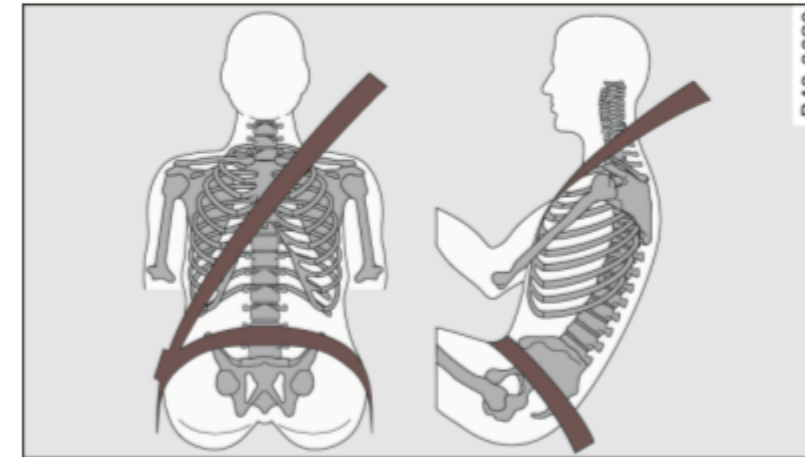

Fig. 95 Head restraint and safety belt position as seen from the side
- The safety belt must lie flat and snug on the occupant's upper body ⇒ *fig. 95.* Pull on the belt to tighten if necessary.
- The lap belt portion of the safety belt must be positioned as low as possible across pelvis and never over the abdomen. Make sure the belt lies flat and snug ⇒ *fig. 95.* Pull on the belt to tighten if necessary.